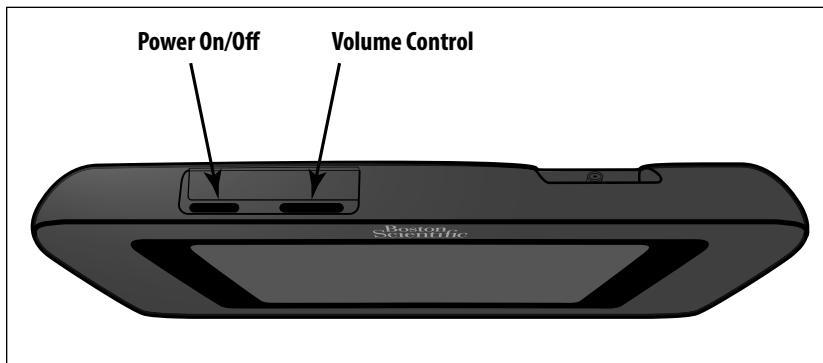

Figure 3: Turning the programmer On/Off and changing the volume level
The programmer power button is located in the recess above and behind the left corner of the screen. Press and hold the button until the display screen is active (Figure 3).
Note: If the programmer cannot be turned on while it is connected to AC power via the external power supply, first unplug the external power supply cord from the programmer. Press and hold the programmer power button until the display screen is active (Figure 3). AC power via the external power supply can then be reconnected.
The volume level of programmer-generated sounds may be temporarily adjusted using the volume control (Figure 3). This level is automatically reset when the programmer is restarted.
- The power button (Figure 3) is momentarily pressed and released